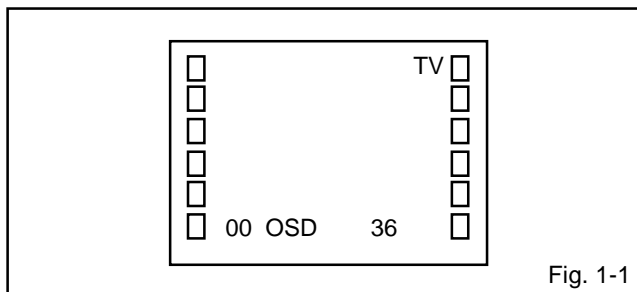

Fig. 1-1
1. In the condition of NO indication on the screen. Press the VOL. DOWN button on the set and the Channel button (9) on the remote control for more than 2 seconds to appear the adjustment mode on the screen as shown in Fig. 1-1.
3. Activate the adjustment mode display of Fig. 1-1 and press the channel button (01) on the remote control to select "CUT OFF".
4. Activate the adjustment mode display of Fig. 1-1 and press the channel button (12) on the remote control to select "R. BIAS".
10. If the picture is too much green. Activate the adjustment mode display of Fig. 1-1 and press the channel button (28) on the remote control to select "CB PED".
12. If the picture is too much red. Activate the adjustment mode display of Fig. 1-1 and press the channel button (29) on the remote control to select "CR PED".
3. Activate the adjustment mode display of **Fig. 1-1** and press the channel button (**03**) on the remote control to select "H.PHASE".
3. Activate the adjustment mode display of **Fig. 1-1** and press the channel button (**07**) on the remote control to select "V. SIZE".
2. Activate the adjustment mode display of **Fig. 1-1** and press the channel button (**33**) on the remote control to select "LEVEL".
3. Activate the adjustment mode display of **Fig. 1-1** and press the channel button (**34**) on the remote control to select "SEP1".
1. Activate the adjustment mode display of **Fig. 1-1**.
3. Activate the adjustment mode display of **Fig. 1-1** and press the channel button (**16**) on the remote control to select "BRI. CENT".
3. Activate the adjustment mode display of **Fig. 1-1** and press the channel button (**24**) on the remote control to select "TINT".